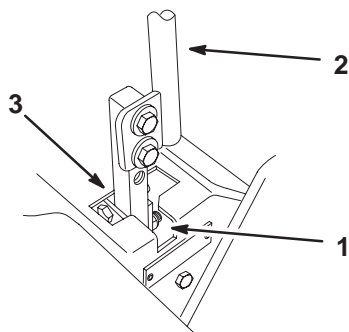

Figure 44
3. Move lever to the neutral position but **not locked** (Fig. 44).
5. Check where the control lever is relative to notch in console (Fig. 44). It should be centered allowing lever to pivot outward to the neutral lock position.
7. Apply slight rearward pressure on the motion control lever, turn the head of the adjustment bolt in the appropriate direction until the control lever is centered in neutral lock position (Fig. 44).